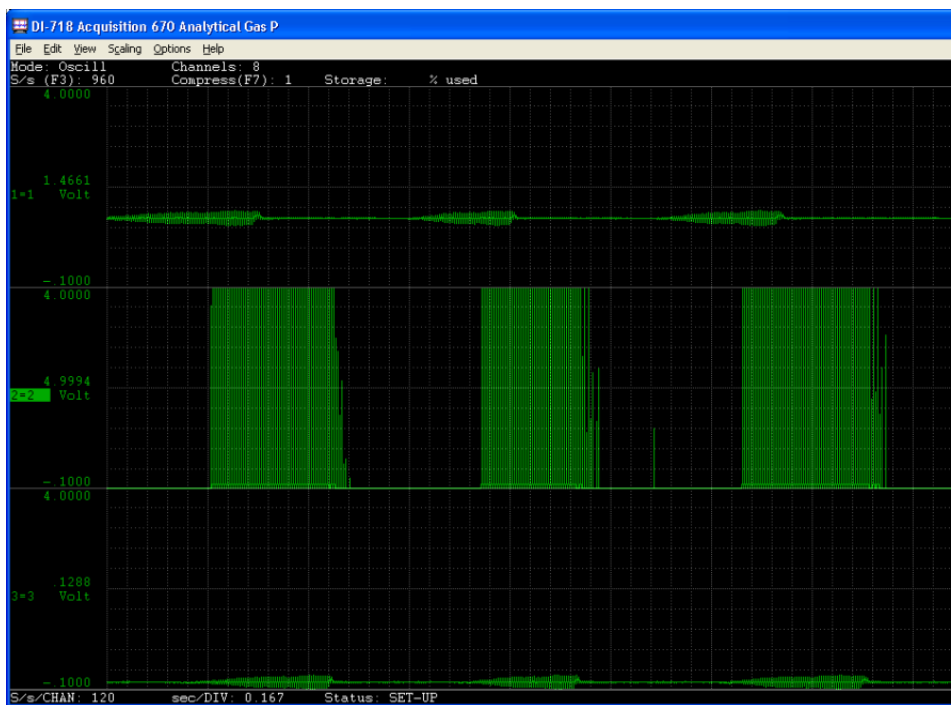

Figure 12. WinDaq showing 3 acquisition channels.
3. WinDaq can be run in default mode (*Figure 12*).